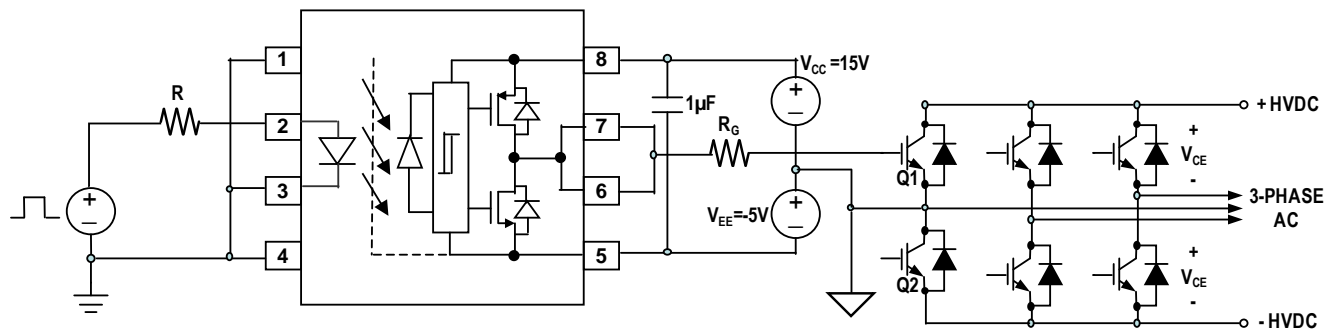

Figure 22. Recommended application circuit with split resistors LED drive.
The recommended application circuit shown in Figure 22 illustrates a typical gate drive implementation using the QCPL-341H. The following describes about driving IGBT. However, it is also applicable to MOSFET. Designers will need to adjust the V_{CC} supply voltage, depending on the MOSFET or IGBT gate threshold requirements (Recommended $V_{CC} = 15\text{ V}$ for IGBT and 12 V for MOSFET).
Step 1: Calculate R_g minimum from the I_{OL} peak specification. The IGBT and R_g in Figure 22 can be analyzed as a simple RC circuit with a voltage supplied by QCPL-341H.
The QCPL-341H includes a Propagation Delay Difference (PDD) specification intended to help designers minimize “dead time” in their power inverter designs. Dead time is the time period during which both the high and low side power transistors (Q1 and Q2 in Figure 22) are off. Any overlap in Q1 and Q2 conduction will result in large currents flowing through the power devices between the high and low voltage motor rails.